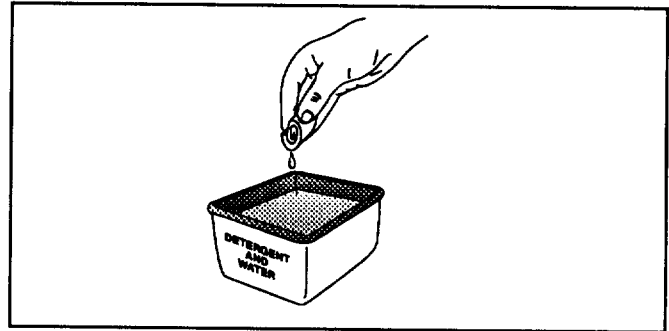

Fig. 22
4. Wash the filter in liquid detergent and water (Fig. 22). Rinse the filter thoroughly and carefully squeeze out excess water. Allow the filter to dry.